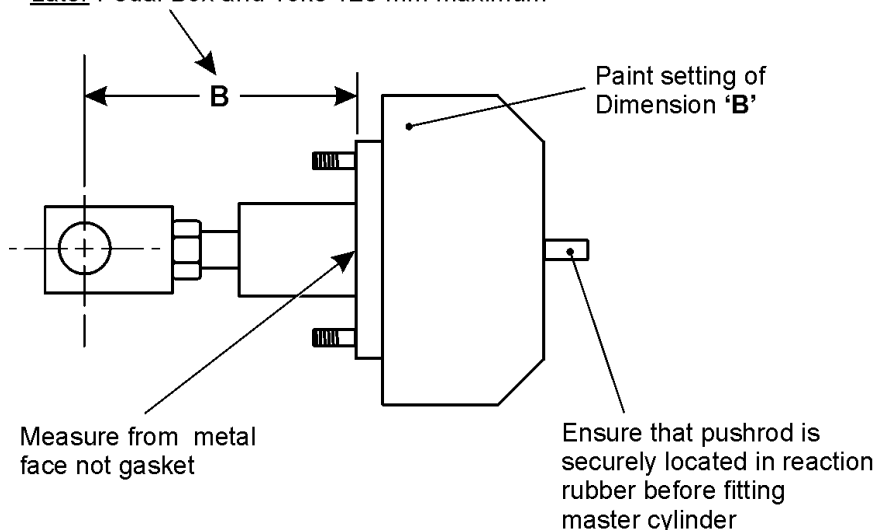

Figure 122 Brake Servo Rod Length
- l. Measure and set the brake servo rod length to the required dimensions (Figure 122) and tighten the yoke locknut.
The clevis pin must be a free fit in the brake servo rod. The dimensions (Figure 122) are an absolute maximum and if exceeded will cause brake lockup and pedal application problems. If brake lockup occurs with adjustment set at maximum, shorten the brake servo rod in 2 mm increments.
- i.** Remove the booster and adjust the length of the brake servo rod to the applicable dimensions (Figure 122). Note the length of the brake servo rod at completion of the adjustment.
- s. Paint the actual pedal dimension that the brake servo rod has been adjusted to on the brake booster (Figure 122).